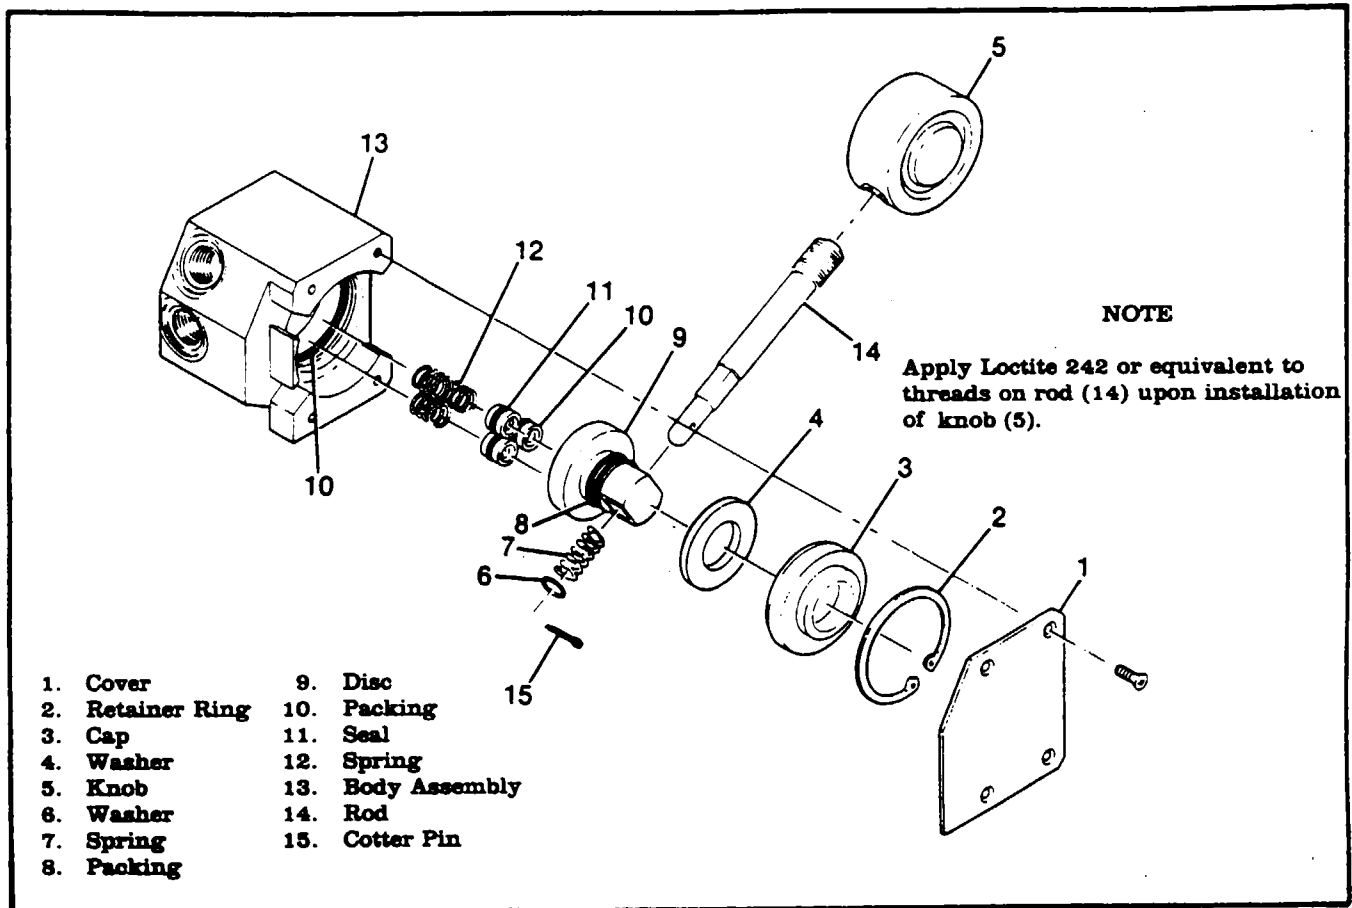

Figure 5-7. Gear Selector Valve
5-31. LANDING GEAR SELECTOR VALVE. (Refer to figure 5-7.)
5-33. REMOVAL AND INSTALLATION. (Refer to figure 5-7.)
### 5-34. DISASSEMBLY AND REASSEMBLY. (Refer to figure 5-7.)
- a. Remove cover (1), retaining ring (2) and cap (3).
- b. Remove cotter pin (15), washer (6), and spring (7).
- c. Pull rod (14) from disc (9); remove disc.
- d. Remove seals (11) and springs (12).
5-35. INSPECTION AND REPAIR. (Refer to figure 5-7.) Replace packing (8) and (10). Check valve for wear, foreign or abrasive materials. Disc (9) may be refaced (lapped) if worn or abraded.